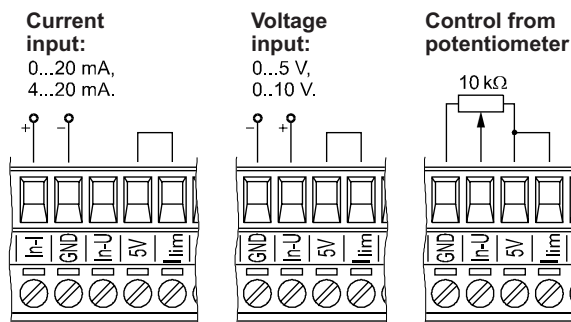

Fig. 5. Connection of control signals
In case of using the current limitation potentiometer on the power controller frontal plate, one must short-circuit 5 V and Limit terminals, fig. 5.
- g) **set the initial value of the triggering angle\***, according to p. 6.6. Increase the input control signal up to reach the current value  $I_r$  necessary to the motor start, next decrease gradually on the „*amax*” potentiometer, up to turn off, fig. 5. In this case, the control range depends on the set current  $I_r$  value to the rated load current  $I_n$  value.